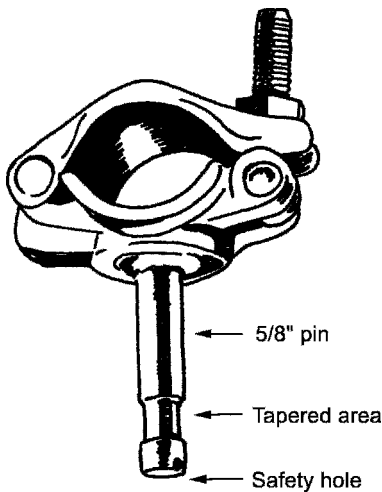

Figure 2.31a Grid clamp with baby pin.
1. Baby grid clamps (Figure 2.31a) are designed to provide maximum hold. The baby grid clamp fits pipes 1-1/4 to 2-1/2 in. in diameter.